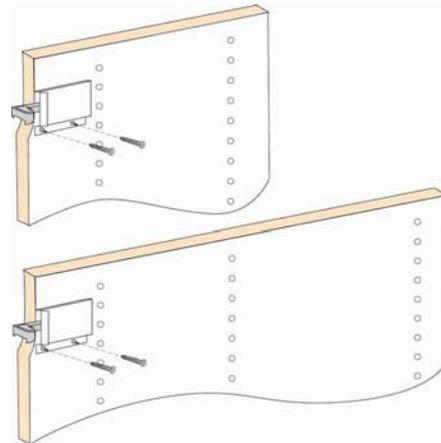

Fig. 2
- Mount all left and right suspension brackets to the hanging panels prior to installation using two (2) #8 x 5/8" screws through the bracket into the pre-drilled bracket holes. (See Fig. 2.)